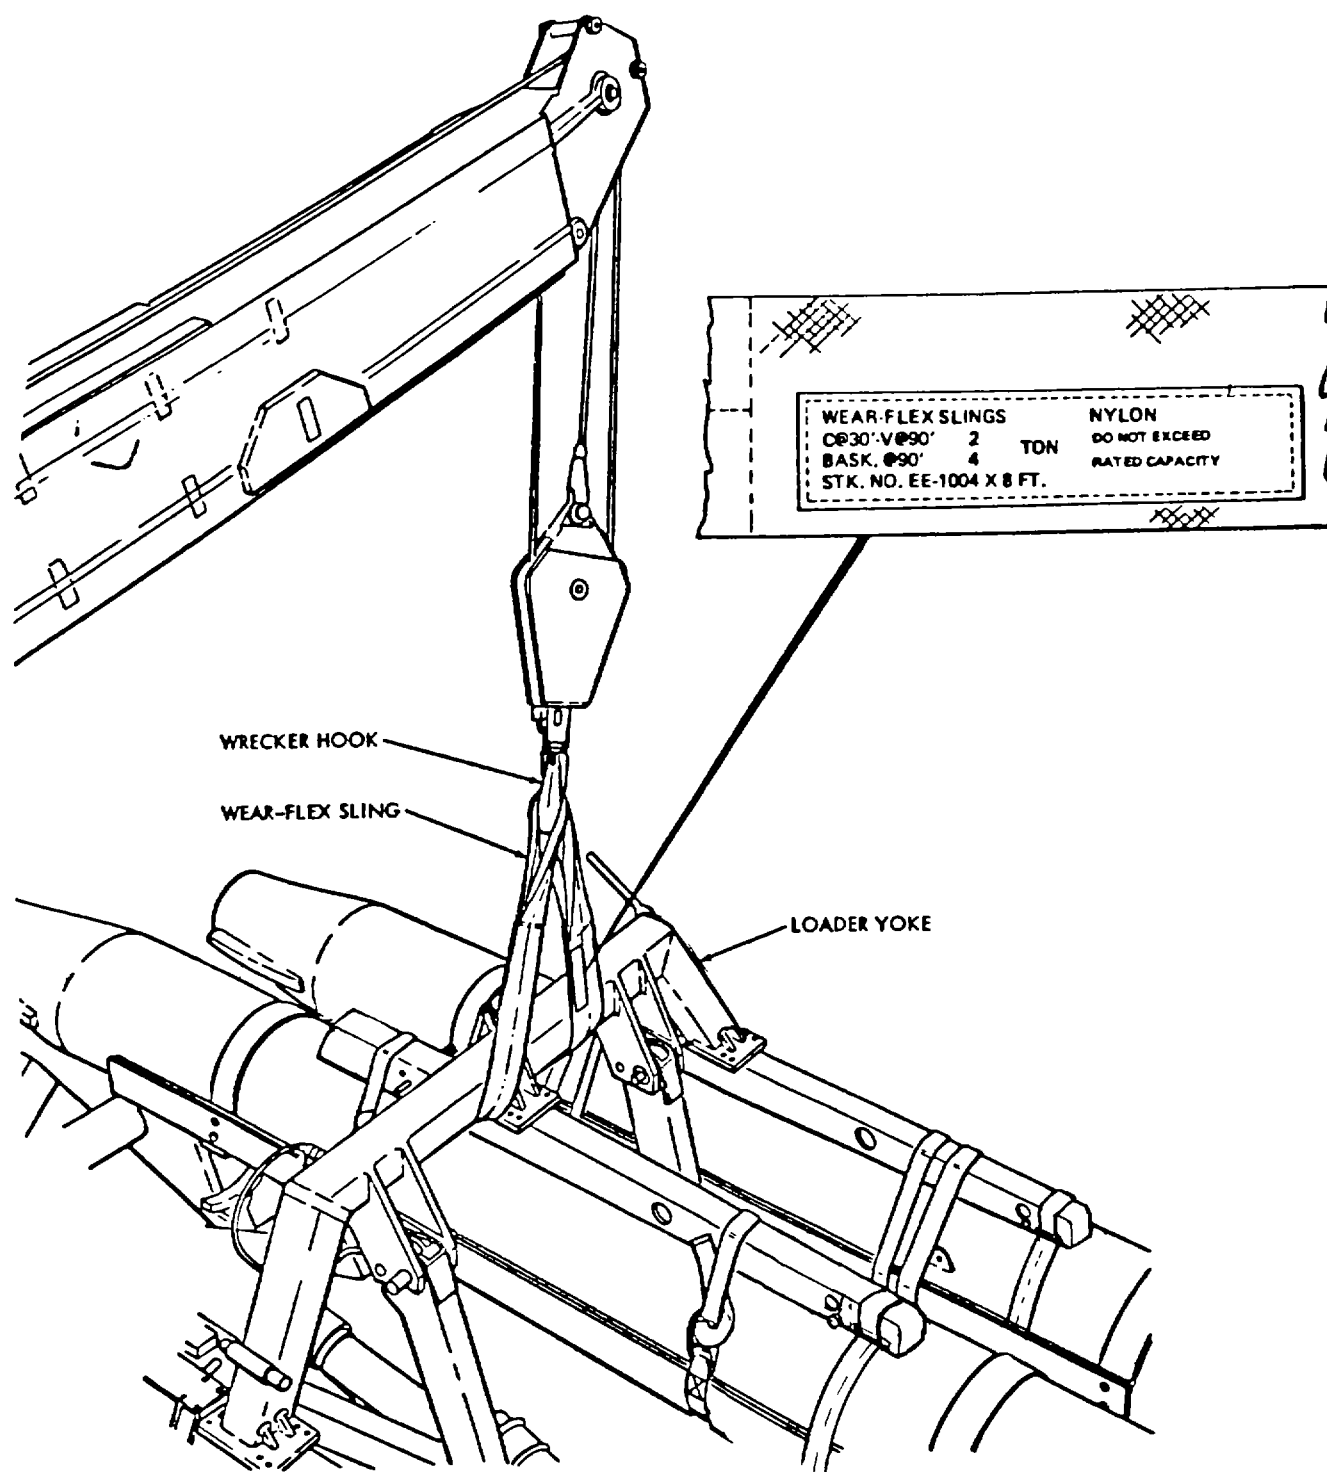

Figure 6-21 Wear-Flex Sling in Place on Loader Yoke.
(15) Install Wear-Flex Sling or equivalent 4-ton capacity sling, to the yoke of the superstructure and attach to wrecker hook (figure 6-21).